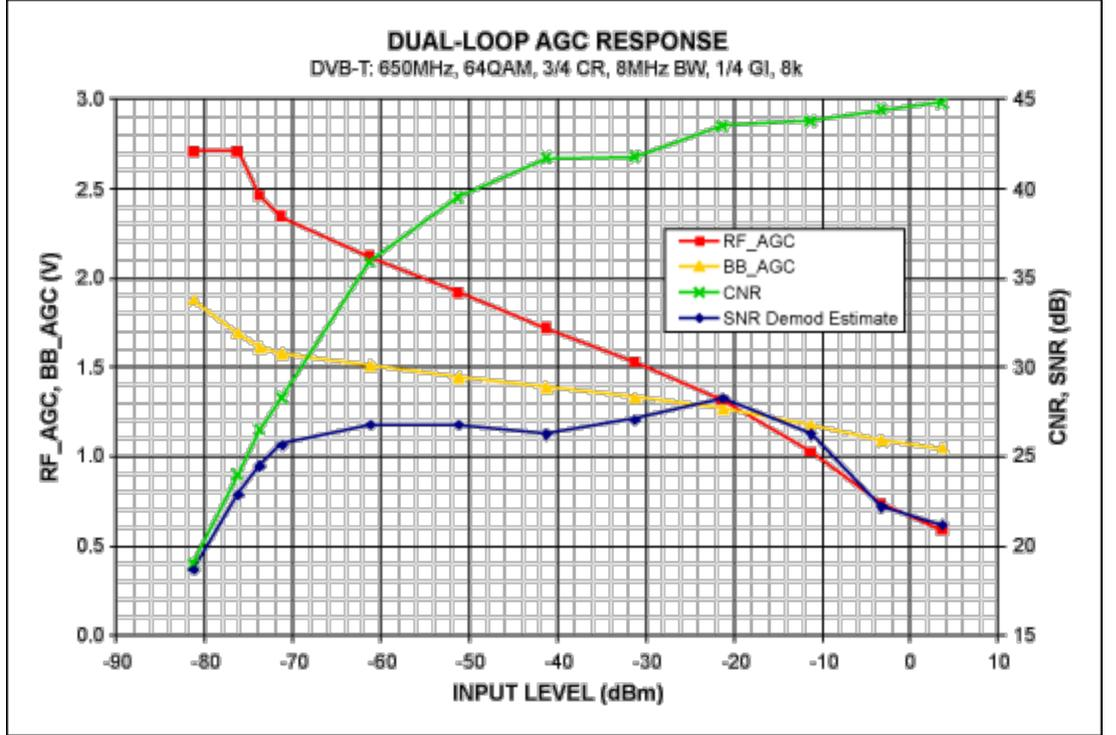
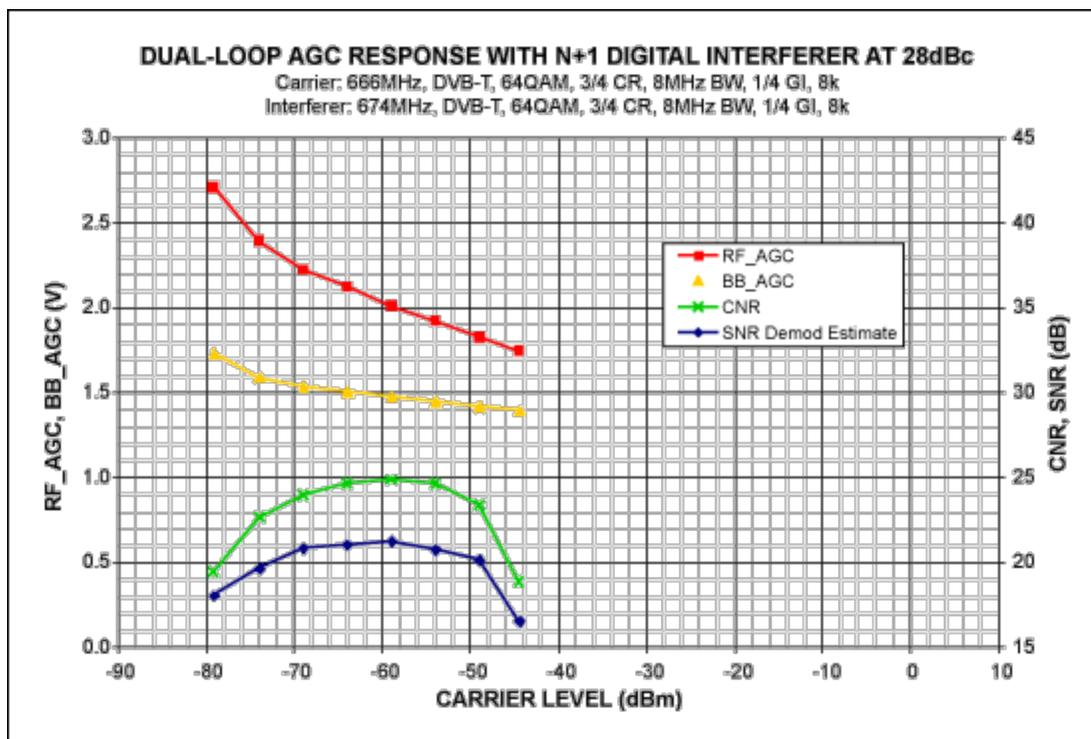

Figure 7. Dual-loop AGC response with wanted signal only.
Figure 8. Dual-loop AGC response with a N+1 digital interferer at 28dBc.
**Figure 7** shows the recommended AGC control voltages for the MAX3580 as the input level is increased. The demodulator PWMs provide these voltages. A PWM receives a hex word as an input from a software algorithm, and then outputs a pulse train that is RC-filtered, resulting in a DC control voltage. As the input level increases from sensitivity, the BB\_AGC is active and reduces gain to keep the demodulator ADC input at the target level. The RF\_AGC remains at maximum gain. Then when the BB\_AGC reduces to 1.7V, the RF\_AGC also becomes active. As the input level continues increasing, the demodulator ADC input level is adjusted to the target level by reducing both RF\_AGC and BB\_AGC according to a fixed ratio. A linearly-decreasing response for both AGC voltages is observed above -72dBm. The RF\_AGC dominates through this region, as observed by its steeper slope. A transitional region occurs between -76dBm and -72dBm, where the RF\_AGC gain adjustment is nonlinear with control voltage.
**Figure 8** shows that RF\_AGC is lower (compared to Figure 7) when an interferer is added. This results in lower CNR and SNR values. Intermodulation from the interferer causes the CNR and SNR to drop when the wanted carrier level increases to the -54dBm to -44dBm range.